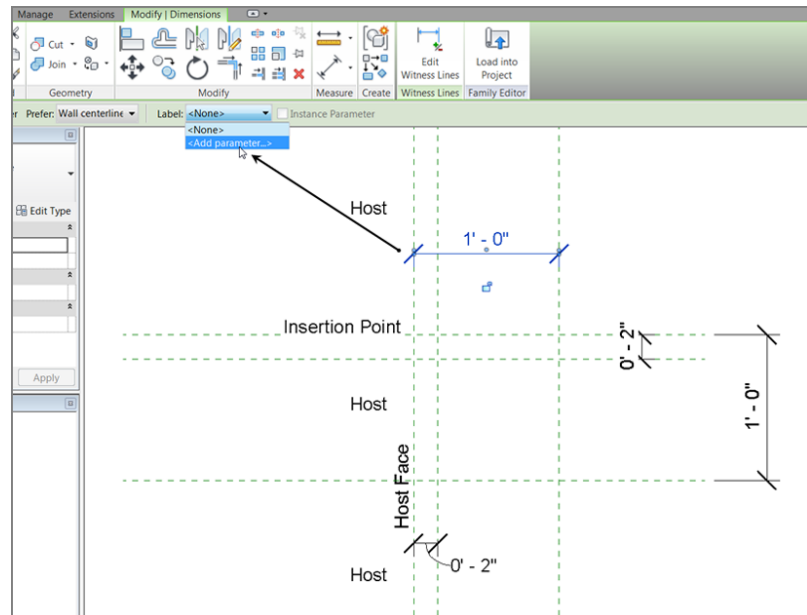

FIGURE 17.6: Choosing Add Parameter on the Options bar
2. On the Options bar, click the Label pull-down menu, and choose Add Parameter (see Figure 17.6).